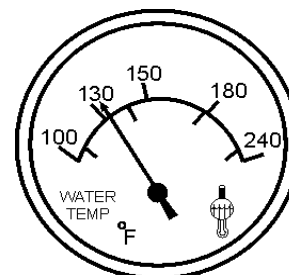

Figure 53. Coolant Temperature Gauge
13. The coolant temperature gauge (Figure 53) will indicate the coolant temperature. Under normal operating conditions the coolant temperature is between 165 and 203° degrees Fahrenheit.